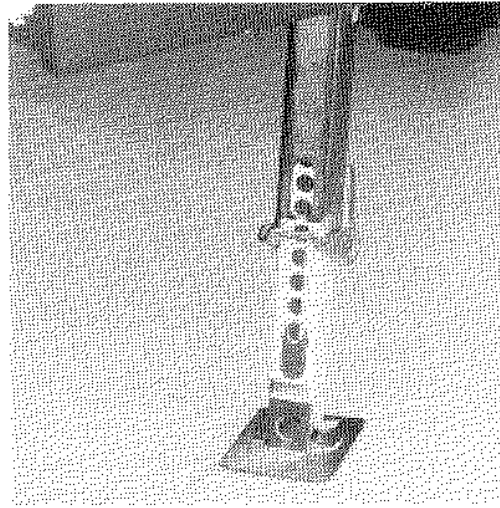

Fig. 4
4. Now release springloaded, self-storing stablizer jacks. Base of this jack is welded to frame. Using 1 or both hands, grip jack and push toward center of camper approximately 5/8". It will require fair amount of effort to release and swing down as in Fig. 4. Now extend the jack “foot” by pushing it to the ground. More tension can be placed on the jack feet by using the long jack handle supplied in each unit. Be sure that not too much force is applied to the jack handle; it may cause the holes in the jack legs to expand by breaking out the dividers and cause adjustment problems in the entrance door. One notch should be sufficient. **DONOT** place excessive weight on these jacks as they are intended to stabilize, not bear the weight of the camper.